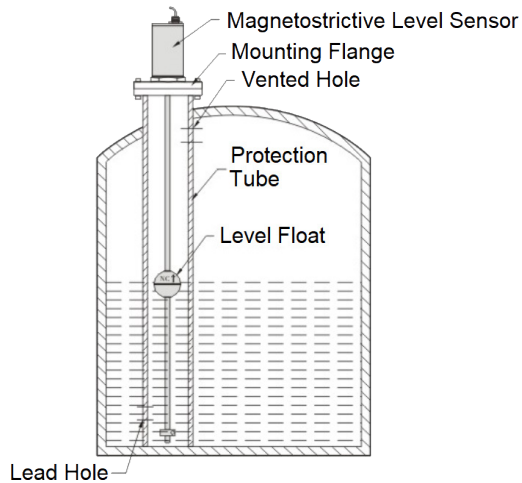
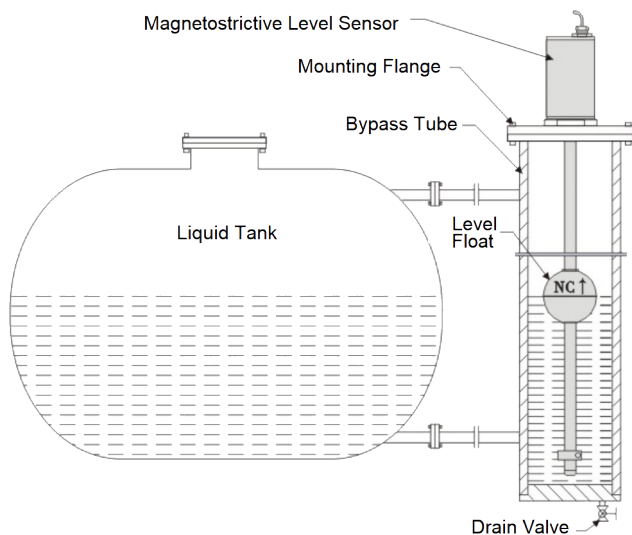

Fig. 1 Protection tube installation diagram
Fig. 2 Bypass tube installation diagram
- When the liquid level in the tank fluctuates due to agitation or flow, the float will go up and down with the fluctuation of the liquid level, causing the output data to be unstable. Therefore, the above problems can be solved by installing a guard tube or a bypass tube, a guard tube as shown in Fig. 1, and a bypass tube as shown in Fig. 2.